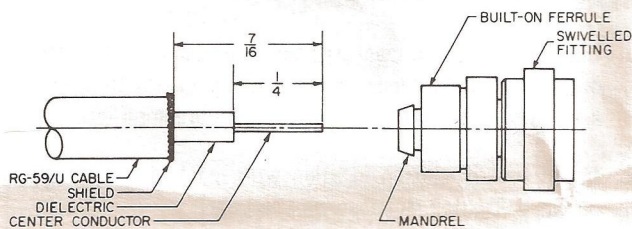

Fig. 2—RG-59/U Prepared for F-59A Male Connector
2. Prepare cable end. See Fig. 2.